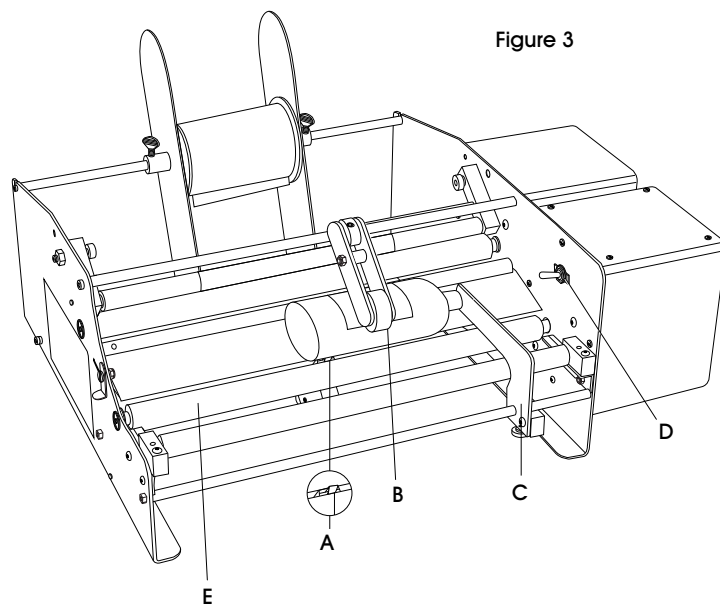

Figure 3
1. After the roll of labels is threaded through the machine adjust label sensor (A) to be positioned in front of the label liner. Ensure that it is not touching the label liner or the bottle drive roller (E). (See Figure 3)
- If sensor is touching the bottle drive roller (E), the labels will only partially dispense or not dispense at all.
3. Adjust bottle guide (C) so it touches the top of the container.